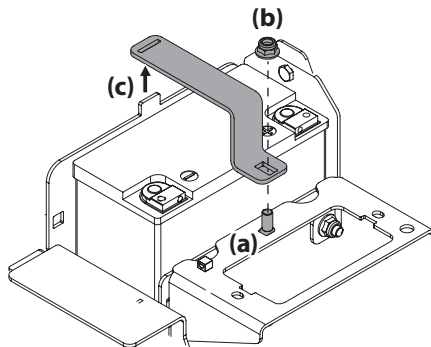

Figure 38
4. Locate and hold the carriage bolt (a) at the front of the battery bracket (c) to prevent it from falling. See Figure 38.
5. Remove the hex lock nut (b) securing the battery bracket (c) in place. Save the carriage bolt and hex lock nut for later reinstallation. See Figure 38.
6. Lift the battery bracket (c) off of the tab at the left side of the battery compartment and save for later reinstallation. See Figure 38.